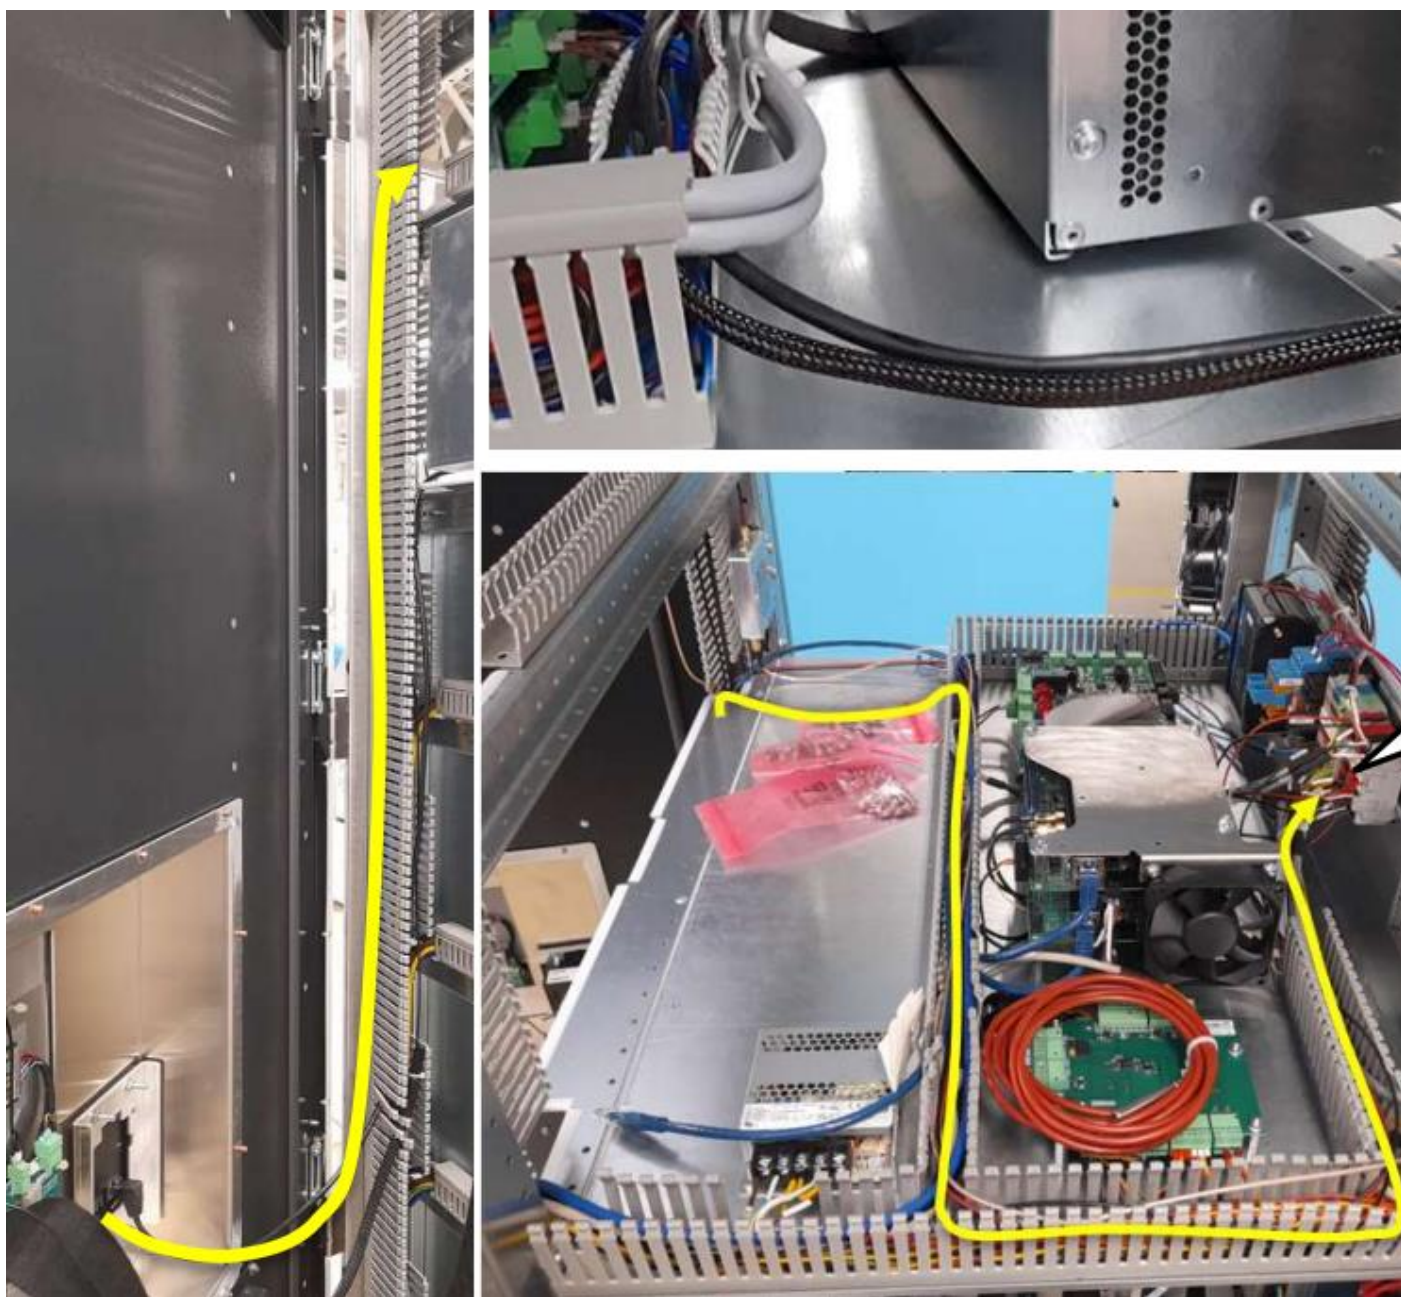

Figure 11 Routing of power supply cable to Payter terminal
Step 15 Route 24V cable to X DC26 and X DC27 terminals according to Figure 11.